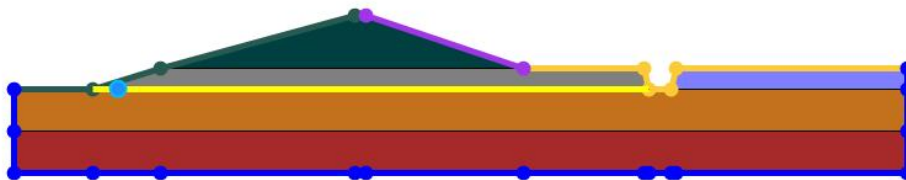

Figure 6.2: Cross-section example 2 including boundary conditions (Blue: No Flow, Green: Seaside Head, Purple: Polderside, Yellow: Polder level).
7. When the Boundary conditions are defined the Boundary conditions can be assigned to the geometry. In the D-Geo Flow Model window, click on a line and assign the corresponding boundary condition in the Properties window. Multiple lines can be selected at once by dragging a square around the lines or by pressing the ctrl key and selecting multiple lines. In Figure 6.2, it is shown how the boundary conditions should be assigned. Note that the boundary conditions are to be assigned on both the lines and the nodes.